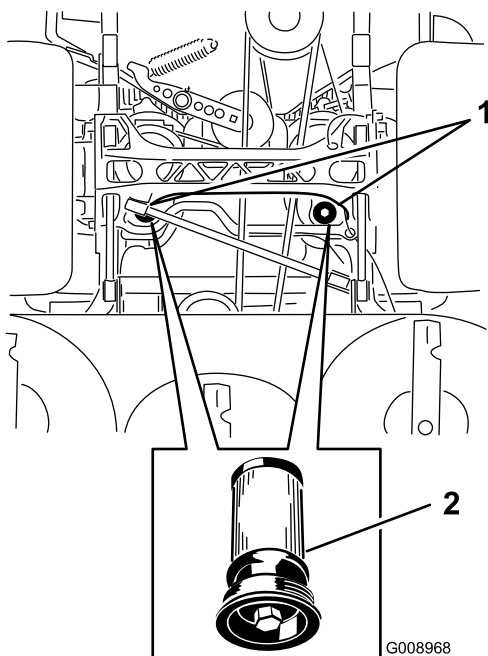

Figure 93
5. Place a drain pan under the filter, remove the old filter and wipe the surface clean (Figure 93).